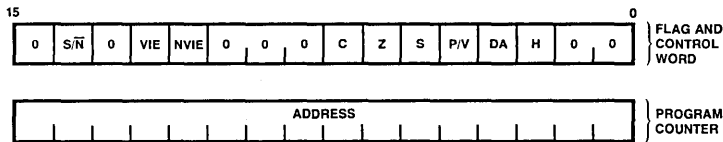

Figure 2. AmZ8002 Processor Status.
The CPU status consists of the 16-bit Program Counter (PC) and the 16-bit Flag and Control Word (FCW) register (see Figure 2). The following is a brief description of the FCW bits.